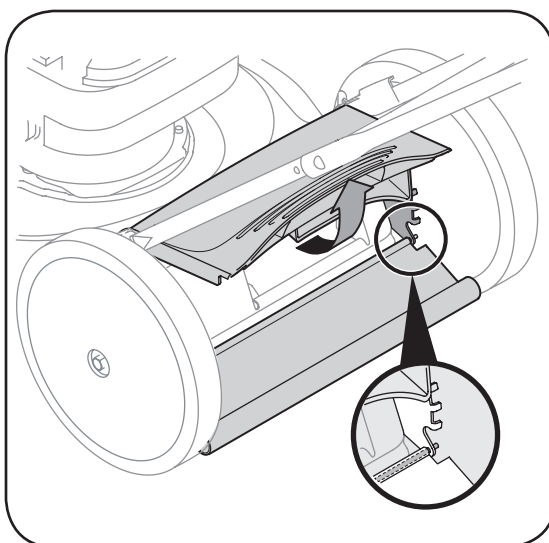

Figure 5-2
1. To remove rear flap, lift rear door, and press flap in on either side to remove from hole. See Figure 5-2.